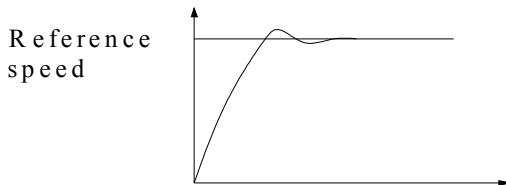

Fig. 6-15 Step response with better dynamic performance
- Normally, user may tune P first, increase its value as long as no system oscillation occurs; then adjust I, ensuring fast response without overshoot. Figure 6-15 shows better speed step response if P, I are set properly. Speed response can be monitored through analog terminals AO1 and AO2. Refer to P8 parameter group for detail information.